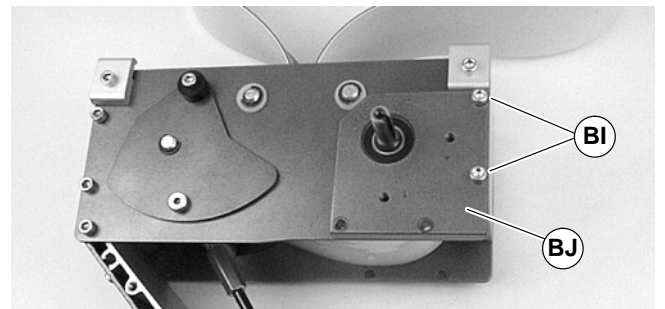
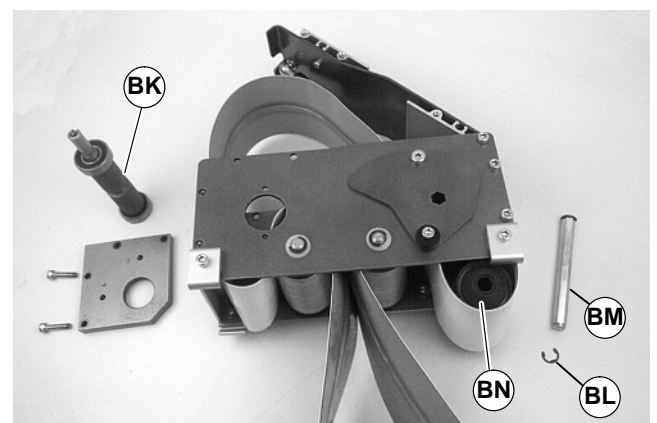
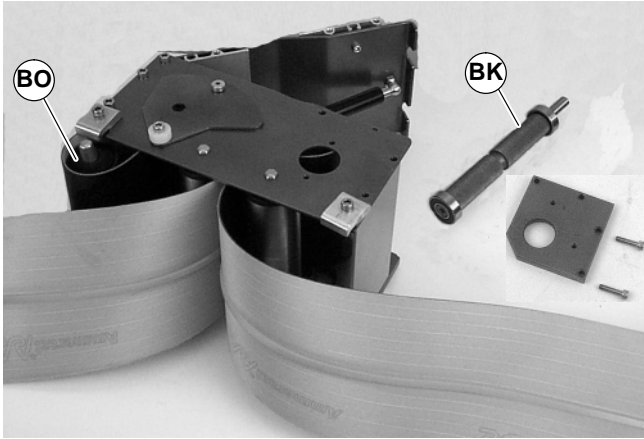

Figure 23
Figure 24
Figure 25
1. Remove drive plate screws (BI of Figure 23). Remove the tension drive plate (BJ).
2. Remove drive pulley (BK of Figure 24).
- For 2" (44 mm), 3" (70 mm) or 4" (95 mm) wide conveyor, detach E-ring clip (BL of Figure 24). Remove pulley shaft (BM) and remove pulley (BN).
- For 5" (127 mm) or wider conveyor, depress both sides of spring-loaded shaft and remove pulley (BO of Figure 25).
3. Place grooved idler pulley (BN of Figure 24 or BO of Figure 25) into the belt loop and install it in the drive module. Refer to “Belt Removal from Center Drive Module” on page 12 and reverse step 3.
4. Place drive pulley (BK of Figure 24 or 25) into the belt loop and install it in the drive module. Refer to “Belt Removal from Center Drive Module” on page 11 and reverse steps 1 and 2. Tighten screws (BI of Figure 23) to 80 in-lb (9 Nm).